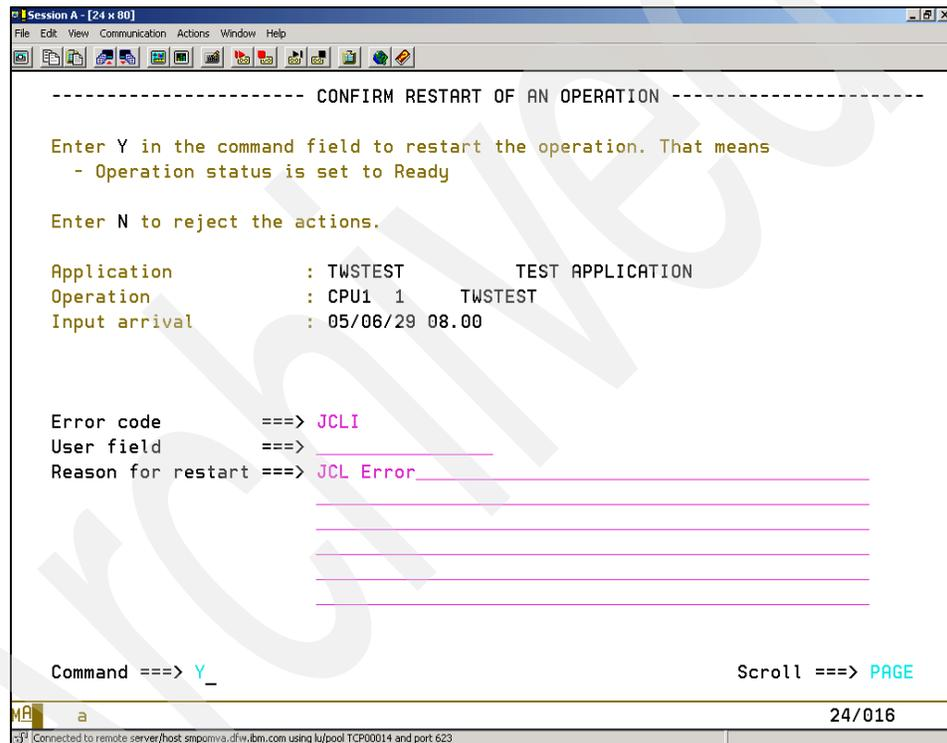

Figure 8-7 Confirm Restart of an Operation
- When you enter the SJR row command, Tivoli Workload Scheduler for z/OS prompts you with the Confirm Restart of an Operation panel (Figure 8-7). Here you can either select Y to confirm the restart or N to reject it. You can enter additional text for the Reason for Restart; when this is entered it goes to the track log for audit purposes.
After you have typed in your Reason for Restart and then entered Y on the command line, you will be taken back to the Error List (Figure 8-7). From here, you will notice the operation is no longer in the Error List, or if the job got another error it will be back in the error list. Otherwise, the job is submitted to JES and is running as normal.
10. Now we are at the Step Restart Selection List (Figure 8-10 on page 197). Here it shows that Step 1 is selected as the restart point. Here we use the S row command and then restart the job. The restarted job will end at step 5. (The end step defaults to the last step). You can also set the step completion code with a desired value for specific restart scenarios, using row command F for a step that is not executable. After entering S, we enter GO to confirm our selection, then exit using F3. You will also find a confirmation panel just as in a Simple Job Restart, the same thing applies here as it did in Figure 8-7 on page 193.